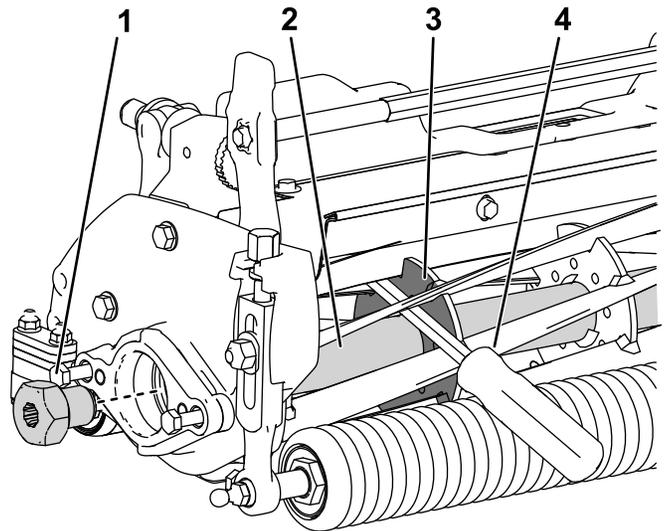

Figure 33
1. Insert a long-handled pry bar (recommended 3/8" x 12" with screwdriver handle) through the front of the cutting reel, closest to the side of the cutting unit that you will be torquing (Figure 33).
2. Place the pry bar against the weld side of the reel support plate (Figure 33).